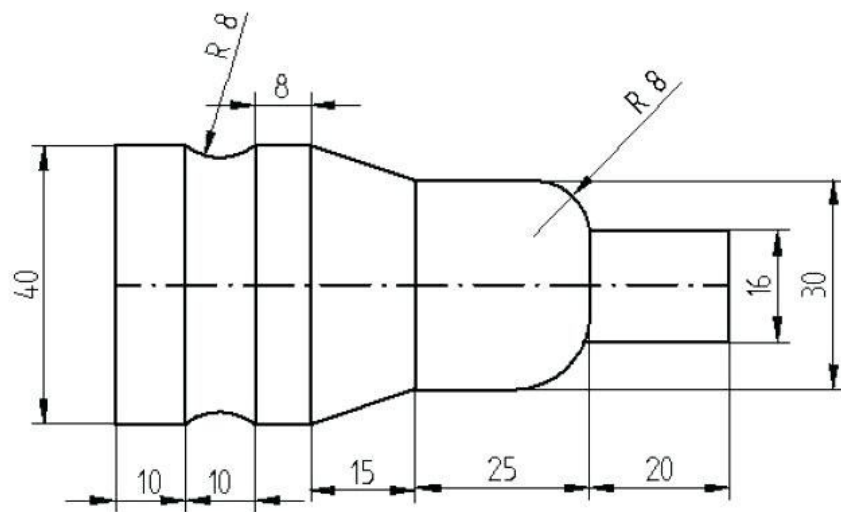

Figure 2
B) Write a turning Part Program for the geometry given in figure 2. **(08)**